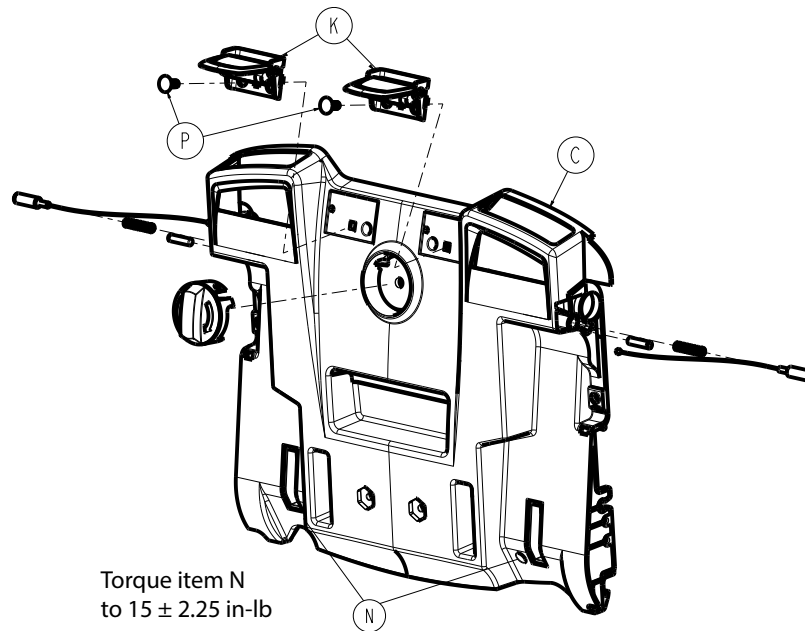

Figure 38 –
5. Using a T20 Torx driver, remove the round washer square neck bolts (P) located under the PCS cam assembly (K) (Figure 38). Save the bolts.
6. Using a T25 Torx driver, remove the pan head thread forming screws (N) that secure the backrest (C) to the product (Figure 38). Save the screws.